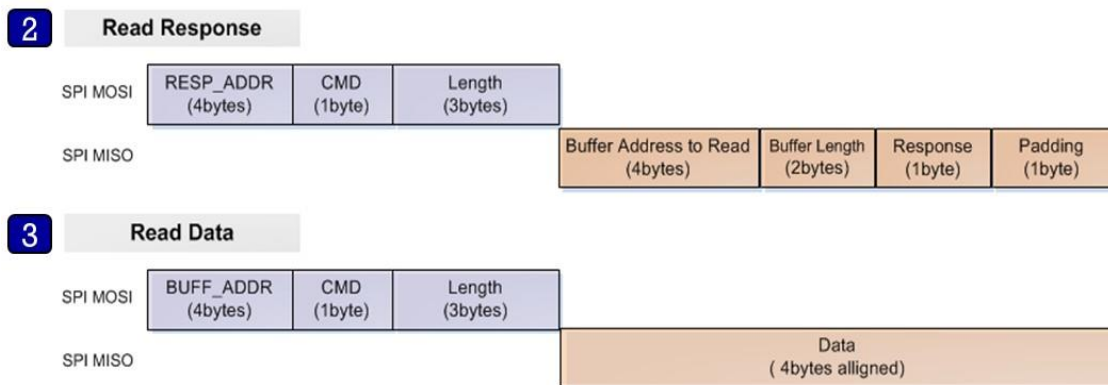

Figure 5. Read operation structure
- The Host reads the response message from Response Command address (0x50080258, blue rectangle in Figure 5) and parses it using struct `_st_host_response` (see Section 3.2.6).
- The Host reads data from address (BUFF_ADDR) which is received from Slave in the response message (green rectangle in Figure 5).